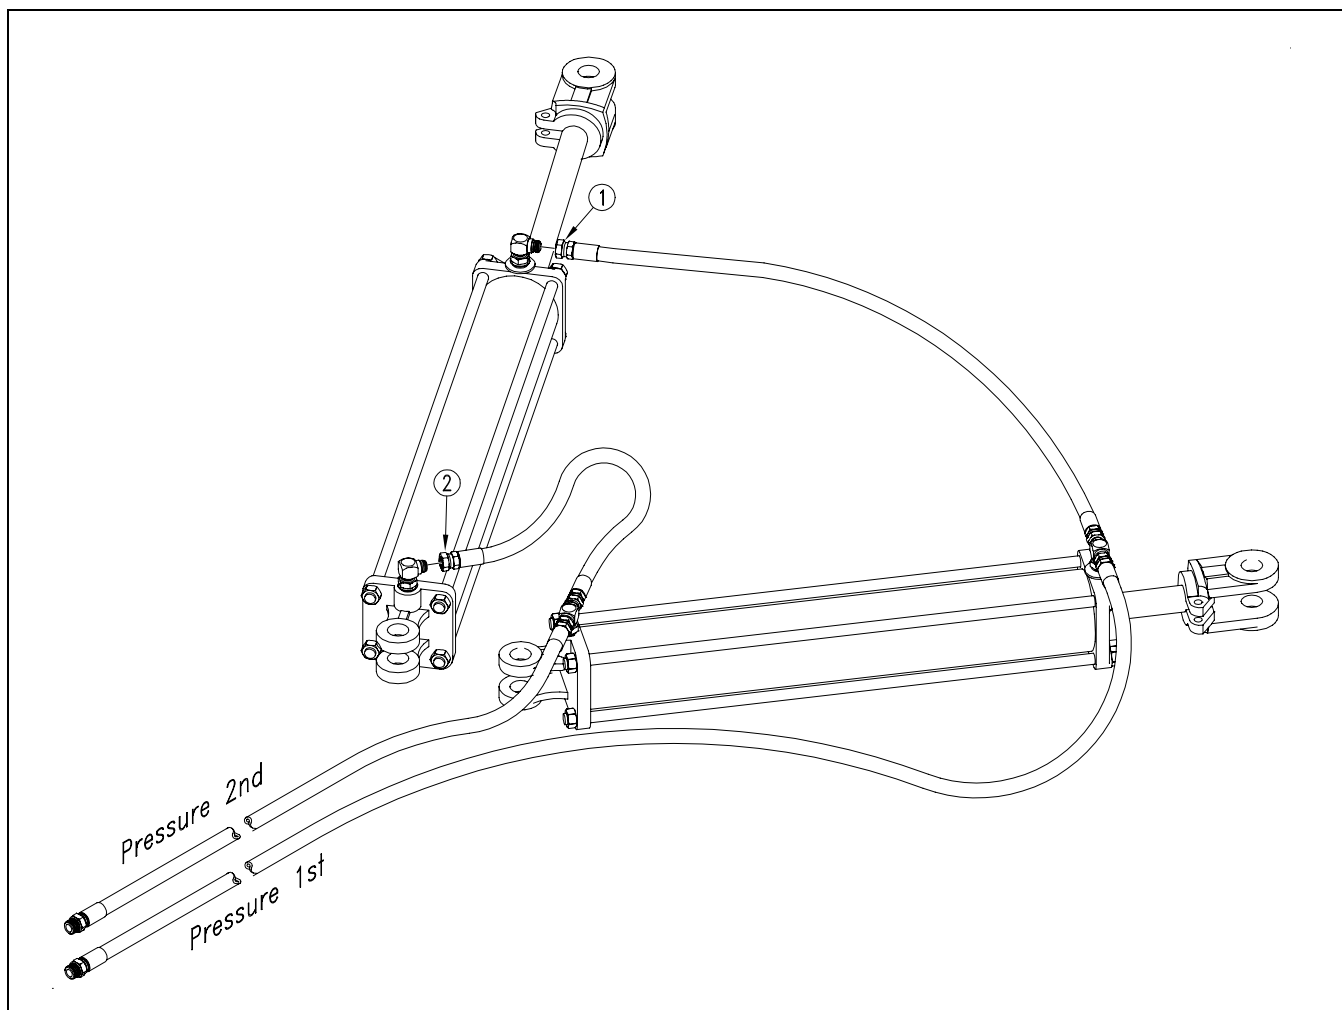

Figure 27
*Refer to Figure 27*
4. Loosen rod end hose JIC fitting ① at elbow on right-hand fold cylinder.
6. With cylinders completely retracted, loosen base end hose JIC fitting ② at elbow on right-hand fold cylinder.